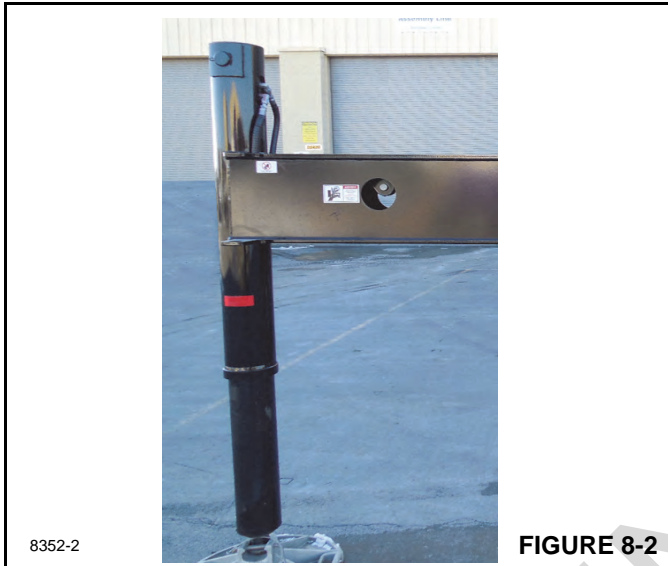

FIGURE 8-2
1. Fully extend and set the outriggers. Refer to (Figure 8-2.)